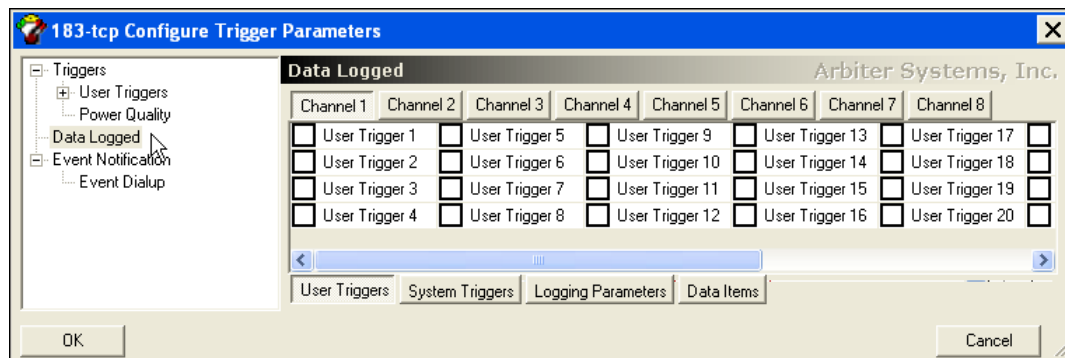

Figure 8.4: Configure Data Logged Screen
1. In the Configure Trigger Parameters window select Data Logged. See Figure 8.4.